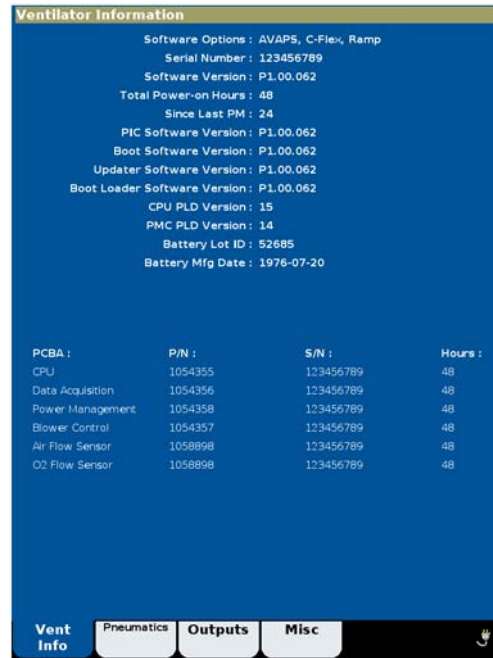

Figure 4-2: Ventilator Information Screen
3. Touch **Service** to display the V60 Ventilator Information screen (Figure 4-2).